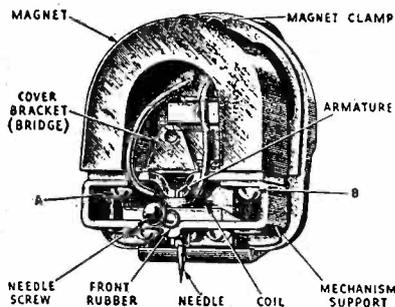

Fig. 1. The parts composing the pickup are marked. Adjustments are made at "A" and "B"
(3) Unsolder the coil leads and remove the mechanism assembly from the back plate by releasing the two mounting screws and the damping block clamping screw.
(4) Remove screws A and B, Fig. 1, and then remove the mechanism assembly from the pole pieces.
(5) The coil or the front pivot rubber may now be removed and replaced. If it is desired to replace the rear pivot rubber, then the end of the armature soldered to the mechanism support must be unsoldered, be-
(7) After reassembling to the mechanism, the entire assembly should be fastened to the back plate by means of screws provided, making sure the damping block is securely clamped. At the same time, the metal dust cover must be placed in position.
(8) After remagnetizing, it is necessary to correctly center the armature. This may be done quite accurately by feeling its play after the needle is inserted. A little practice will quickly show which way an adjustment is necessary to have the armature centered properly. The adjustment is made by loosening screws A and B, Fig. 1, and sliding the mechanism slightly in relation to the pole pieces.
(9) The cover may now be replaced over the entire assembly, and the pickup returned to the tone arm.